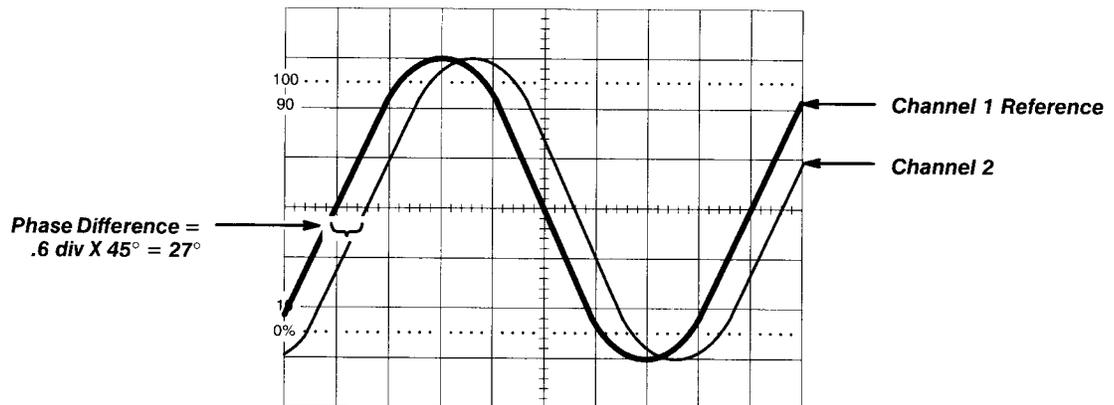

Figure 3-39: Measuring Phase Difference
- Step 8:** Measure the horizontal difference in divisions between the signals and multiply it by 45° (Figure 3-39).